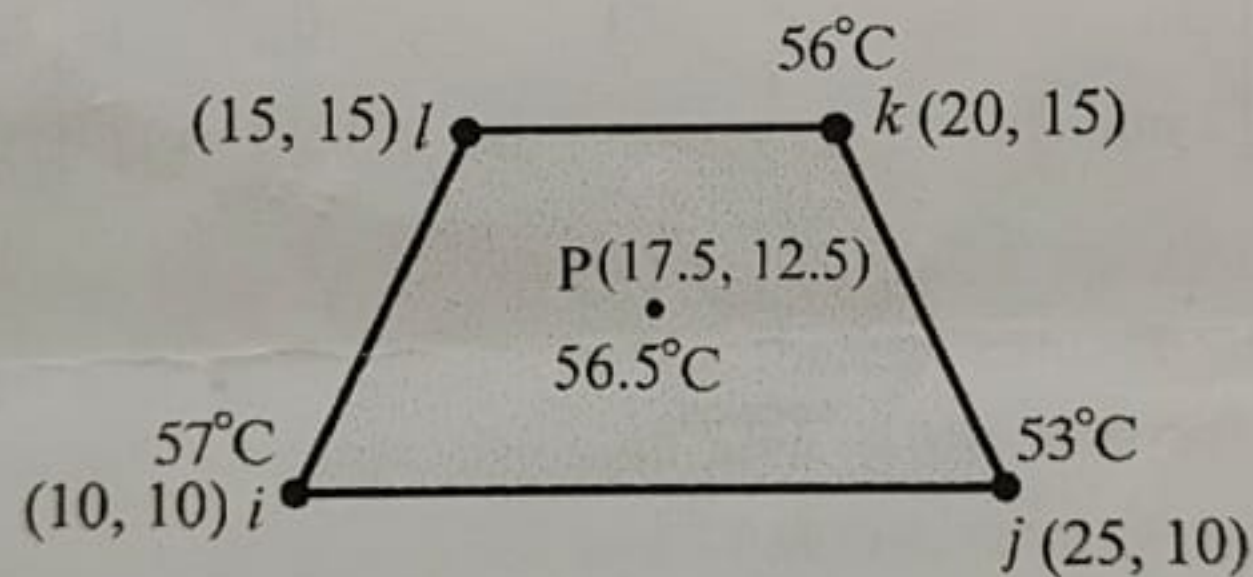

Figure 5
- 7.b) i) Consider a four noded quadrilateral (trapezoid) element $ijkl$ with its cartesian coordinates shown in the figure 5. The temperature values in the element are given at three nodes i, j, k , and at its centre point, P . Determine the temperature value at the node l using appropriate shape functions of the element. [10]